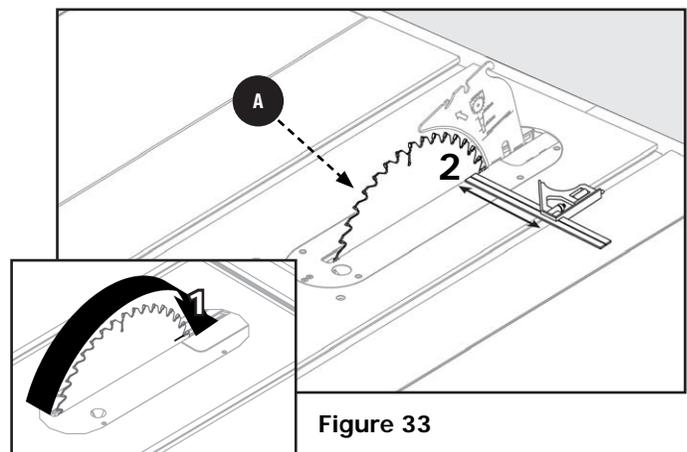

Figure 33
2. Turn blade **A** so that marked tooth is at back. Move combination square to the rear and again measure the distance. If the distances are the same, blade **A** is square. See Figure 33.